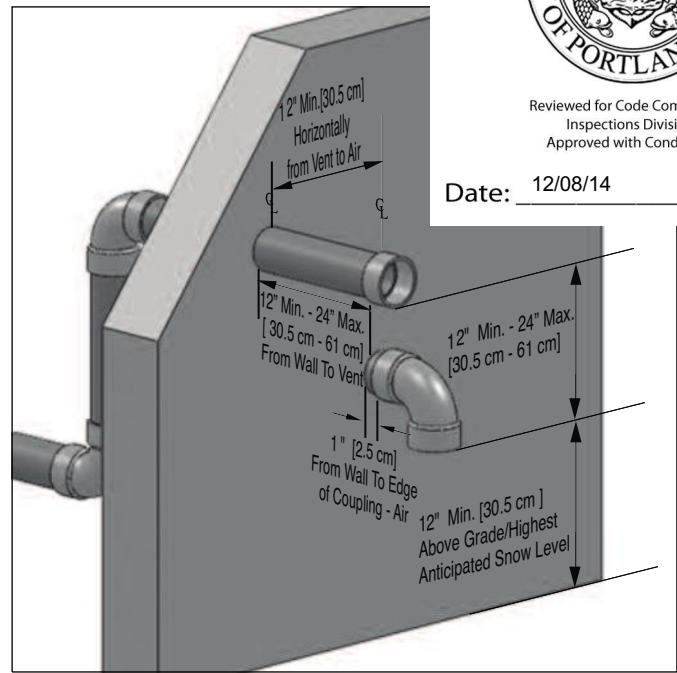

Fig. 9: Direct Vent - Alternate Sidewall Termination of Vent and Combustion Air Piping
- Using coupling as shown in Figs. 9 or 13, pages 17 or 18.
- Using coupling as shown in Figs. 9 or 13 pages 17 or 18.